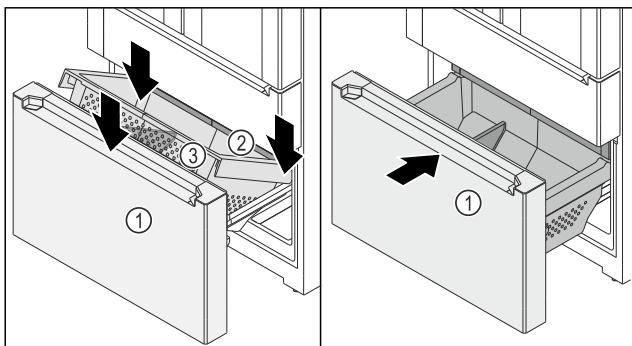

Fig. 154
- Telescopic unit Fig. 154 (1) is pulled out.
- Drawer Fig. 154 (2) is pushed in.
- Place the container Fig. 154 (3) at the rear on the rails on the right and left.
- Lower the front of the container Fig. 154 (3) so that the container Fig. 154 (3) encloses the rails on the right and left.
- Push in the telescopic unit Fig. 154 (1).